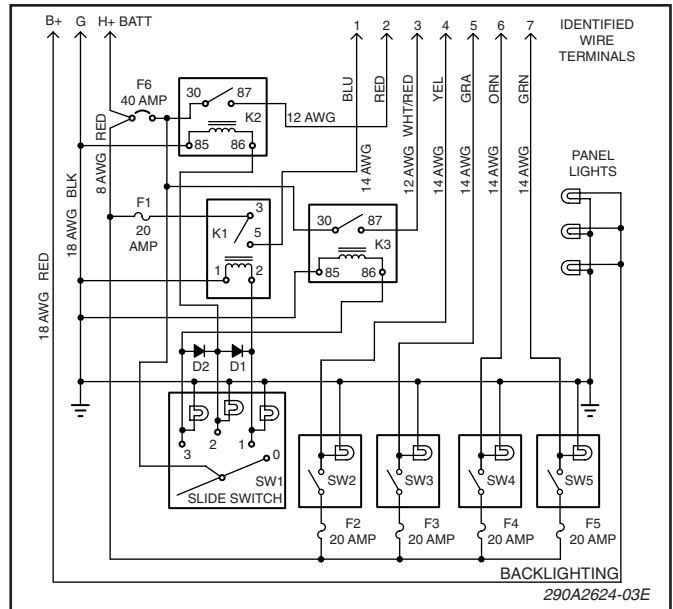
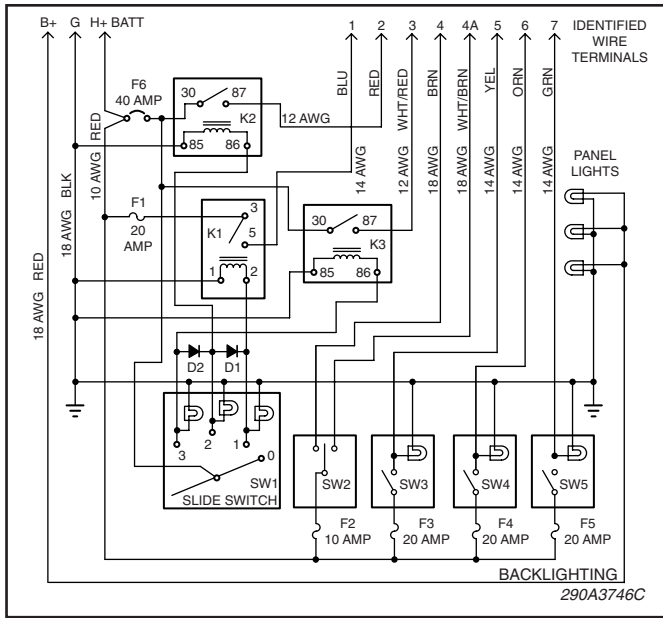

Figure 3. SW400SS Wiring Diagram.
Figure 4. SW400SSJ Wiring Diagram.
Figure 3 and table 1 for SW400SS, and figure 4 and table 2 for SW400SSJ illustrate the correlation of the wires to the corresponding switches and maximum current capacities. The first slide switch position (leftmost) is the OFF position.
1. See figure 3 or 4 and table 1 or 2. Use the recommended wire gauge with appropriate connectors (yellow for 12GA, blue for 14GA, and pink for 18GA) to connect leads "1" through "7" to the applicable accessory load.
Table 1. SW400SS (See figure 3).
Table 2. SW400SSJ (See figure 4).